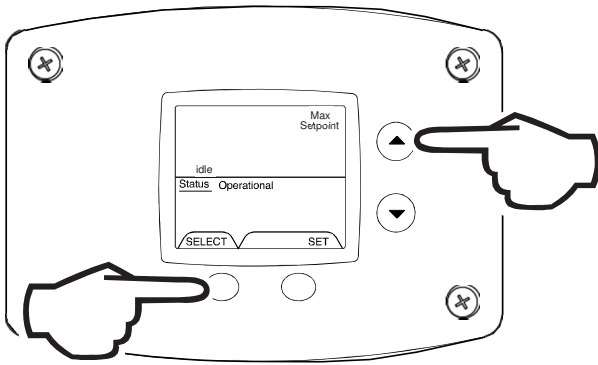

Fig. 46
- 30 Seconds after the last button press, the Water Heater Display will go back to 'User Mode'. It will read 'Max Setpoint' without showing a temperature value if the temperature setpoint is at the maximum setting. The Water Heater Display can be set back to the 'User Mode' immediately by pressing both the 'Temperature Up' and 'Select' buttons together for 3 seconds (Fig. 46).